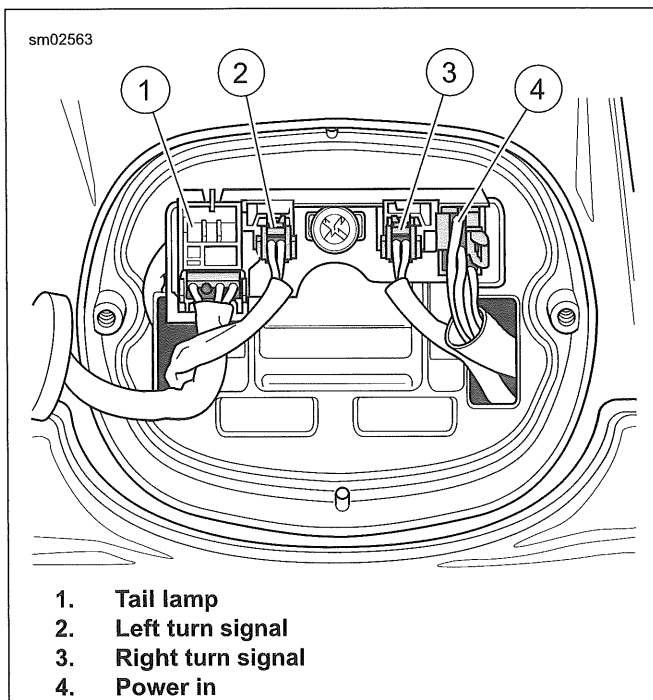

Figure 7-89. Wire Location at Connectors
4. See Figure 7-89. Disconnect 6-pin connector (4).
9. See Figure 7-89. Install connectors to circuit board.